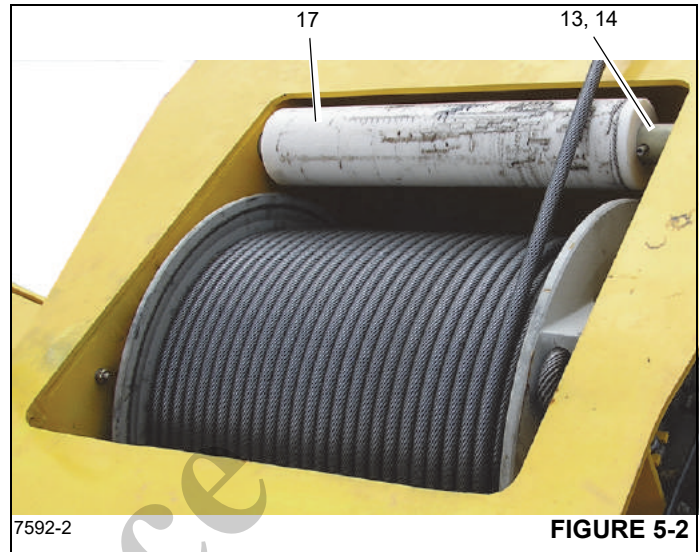

FIGURE 5-2
4. Tag and disconnect the electrical wires to the lowering limit switch (1) (Figure 5-2 continued). Remove the
screws and washers securing the limit switch (Figure 5-2 continued). Remove the limit switch (1) (Figure 5-2 continued).
Figure 5-2 continued
6. Ensure the hydraulic lines have been disconnected from the hoist motor. Remove the socket head capscrews (5) (Figure 5-2 continued) securing the motor to the brake. Remove the motor (3).
7. Remove the socket head capscrews (7) and spring washers (8) (Figure 5-2 continued) securing the mounting gear (6) to the hoist flange.
8. Using a lifting device, remove the mounting gear (6) and brake (9). Separate the brake (9) from the mounting gear (6).
9. Ensure the lifting device is securing the hoist drum. Remove the cotter pins (13) (Figure 5-2 continued) and remove the idler rollers (17).
10. Remove the roll pins (10), washers (11) and rods (12) (Figure 5-2 continued) from the superstructure.
2. Install the rods (12), washers (11) and cotter pins (Figure 5-2 continued) in the superstructure.
4. Install the idler rollers (17) and secure with the cotter pins (13) (Figure 5-2 continued).
5. Using a lifting device, install the mounting gear (6) in the hoist flange and secure with the socket head capscrews (7) and spring washers (8) (Figure 5-2 continued). Torque the capscrews to recommended torque.
7. Install the brake (9) (Figure 5-2 continued) to the mounting gear (6) and secure with the socket head capscrews.
8. Install the motor (3) to the brake and secure with the socket head capscrews (5) (Figure 5-2 continued). Torque the capscrews to recommended torque.
9. Install the limit switch (1) (Figure 5-2 continued) and secure with the screws and washers. Torque the screws to recommended torque. Connect the electrical wires to the lowering limit switch.